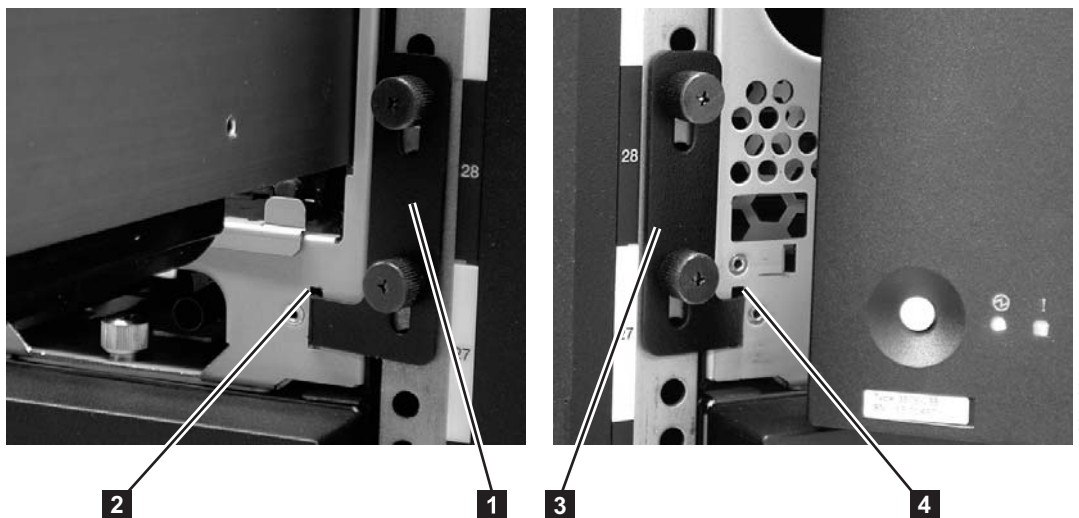

Figure 12-15. Removing the rack ears (control module shown)
2. Remove the right rack ear (**1** in Figure 12-15).
3. Remove the left rack ear (**3** in Figure 12-15).
2. Replace the right rack ear (**1** in Figure 12-15 on page 12-16).
- a. At the lower right of the I/O station position on each library unit, there is a slot (**2** in Figure 12-15 on page 12-16). Insert the right rack ear into the slot.
3. Replace the left rack ear (**3** in Figure 12-15 on page 12-16).
- b. Insert the left rack ear into the slot (**4** in Figure 12-15 on page 12-16).